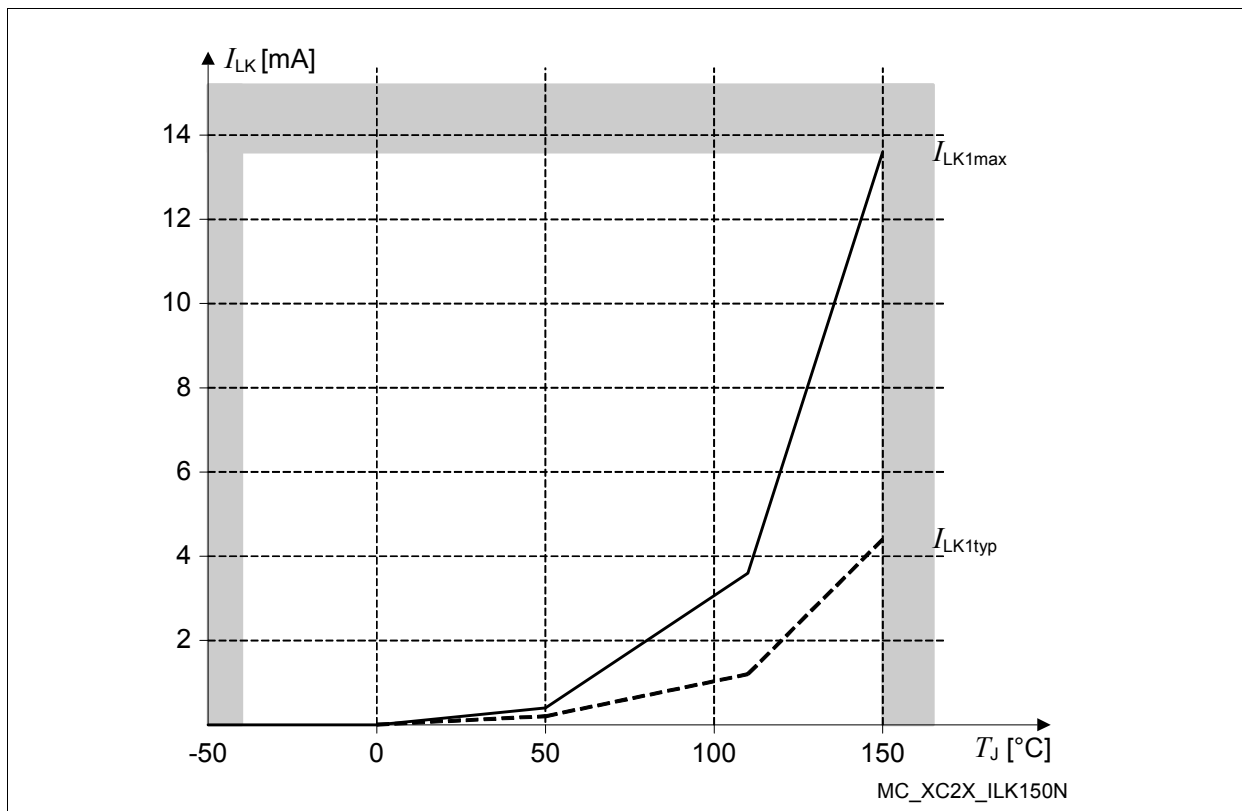

Figure 14 **Leakage Supply Current as a Function of Temperature**
- 2) The supply current caused by leakage depends mainly on the junction temperature (see Figure 14) and the supply voltage. The temperature difference between the junction temperature T_J and the ambient temperature T_A must be taken into account. As this fraction of the supply current does not depend on device activity, it must be added to other power consumption values.